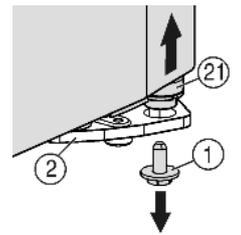
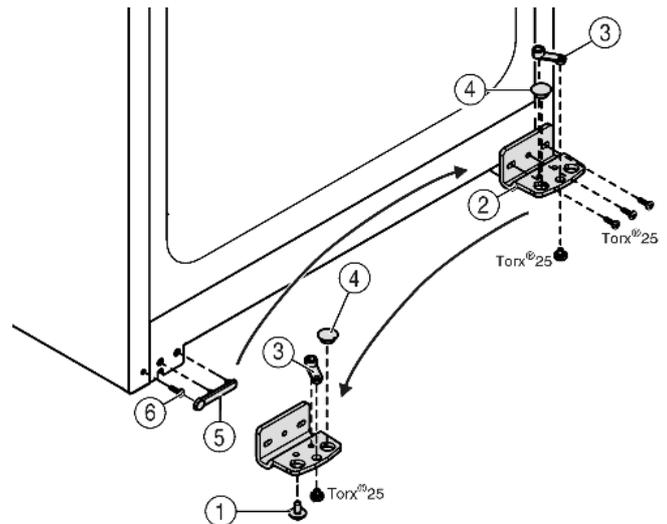

Fig. 4
Fig. 5
- ▶ The bearing pin *Fig. 4 (21)* should come out of the turn hinge *Fig. 5 (2)*.
- ▶ If the bearing bolt *Fig. 4 (21)* doesn't undo press it out from underneath.
- ▶ Unscrew the turn hinge *Fig. 5 (2)*.
- ▶ Unscrew the bearing element, *Fig. 5 (3)* transfer it to the opposite location hole of the turn hinge and screw it firmly into place.
- ▶ Take the stopper *Fig. 5 (4)* out of the turn hinge and transfer it to the receiving hole on the opposite side of the turn hinge.
- ▶ Carefully lift off the cover *Fig. 5 (5)* on the handle side.
- ▶ Undo the screw *Fig. 5 (6)* and transfer it to the opposite side.
- ▶ Put the cover *Fig. 5 (5)* back on.
- ▶ Screw the turn hinge *Fig. 5 (2)* firmly into place on the new hinge side (**with 4 Nm**), possibly using a power screwdriver.
- ▶ Insert the securing screw Fig. 4 (1) at the bottom into the bearing pin and tighten it (**with 4 Nm**).